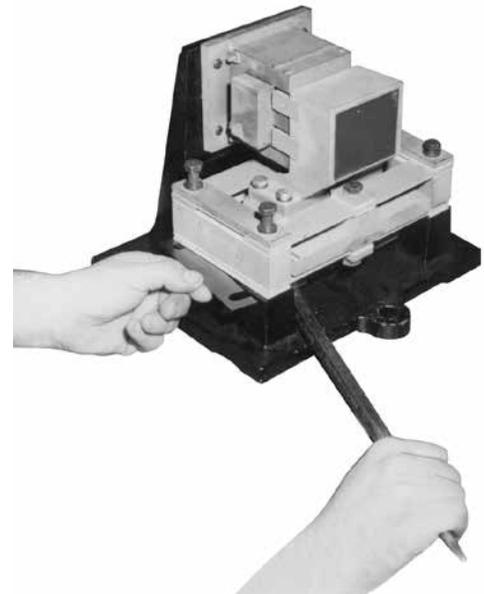

FIGURE 3
- a. Loosen the bolts fastening the E-Frame, part 4, (see “Parts List”) and those holding the spring assembly. Add or remove shims, part 13, equally at each side of the spring assembly, as shown in Figure 3, until impact pad, part 9, barely touches anvil part 10. Tighten the bolts holding the spring assembly.